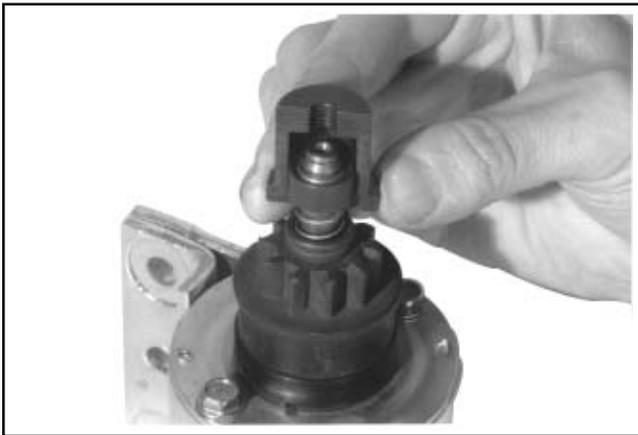

Figure 8-34. Assembling Larger Inner Half Around Spring Retainer.
5. Assemble the inner halves with the larger cavity around the spring retainer (see Figure 8-34). Slide the collar over them and thread the center screw in until resistance is felt.